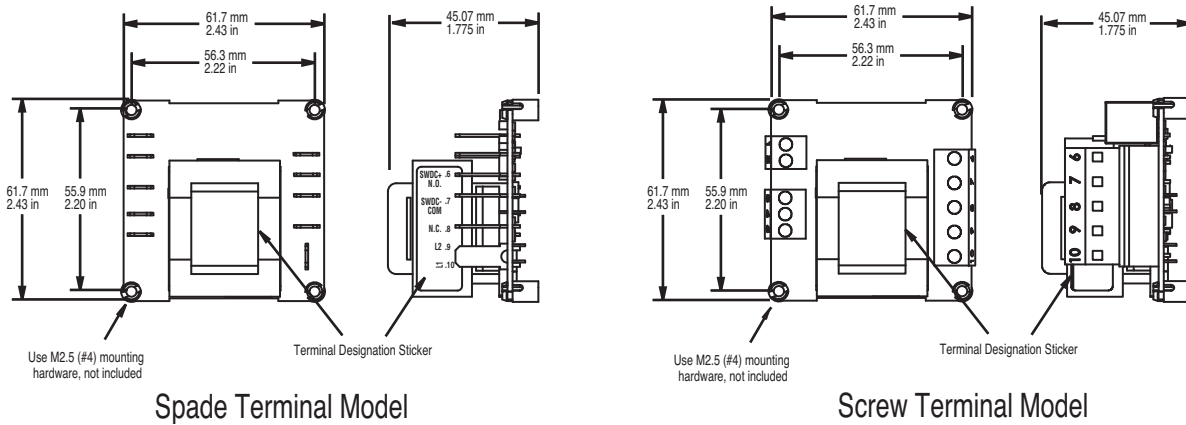

Figure 2a
1. Locate and drill four 3.2 mm (0.125 in) holes in the desired panel location. See Figure 2a for hole locations.